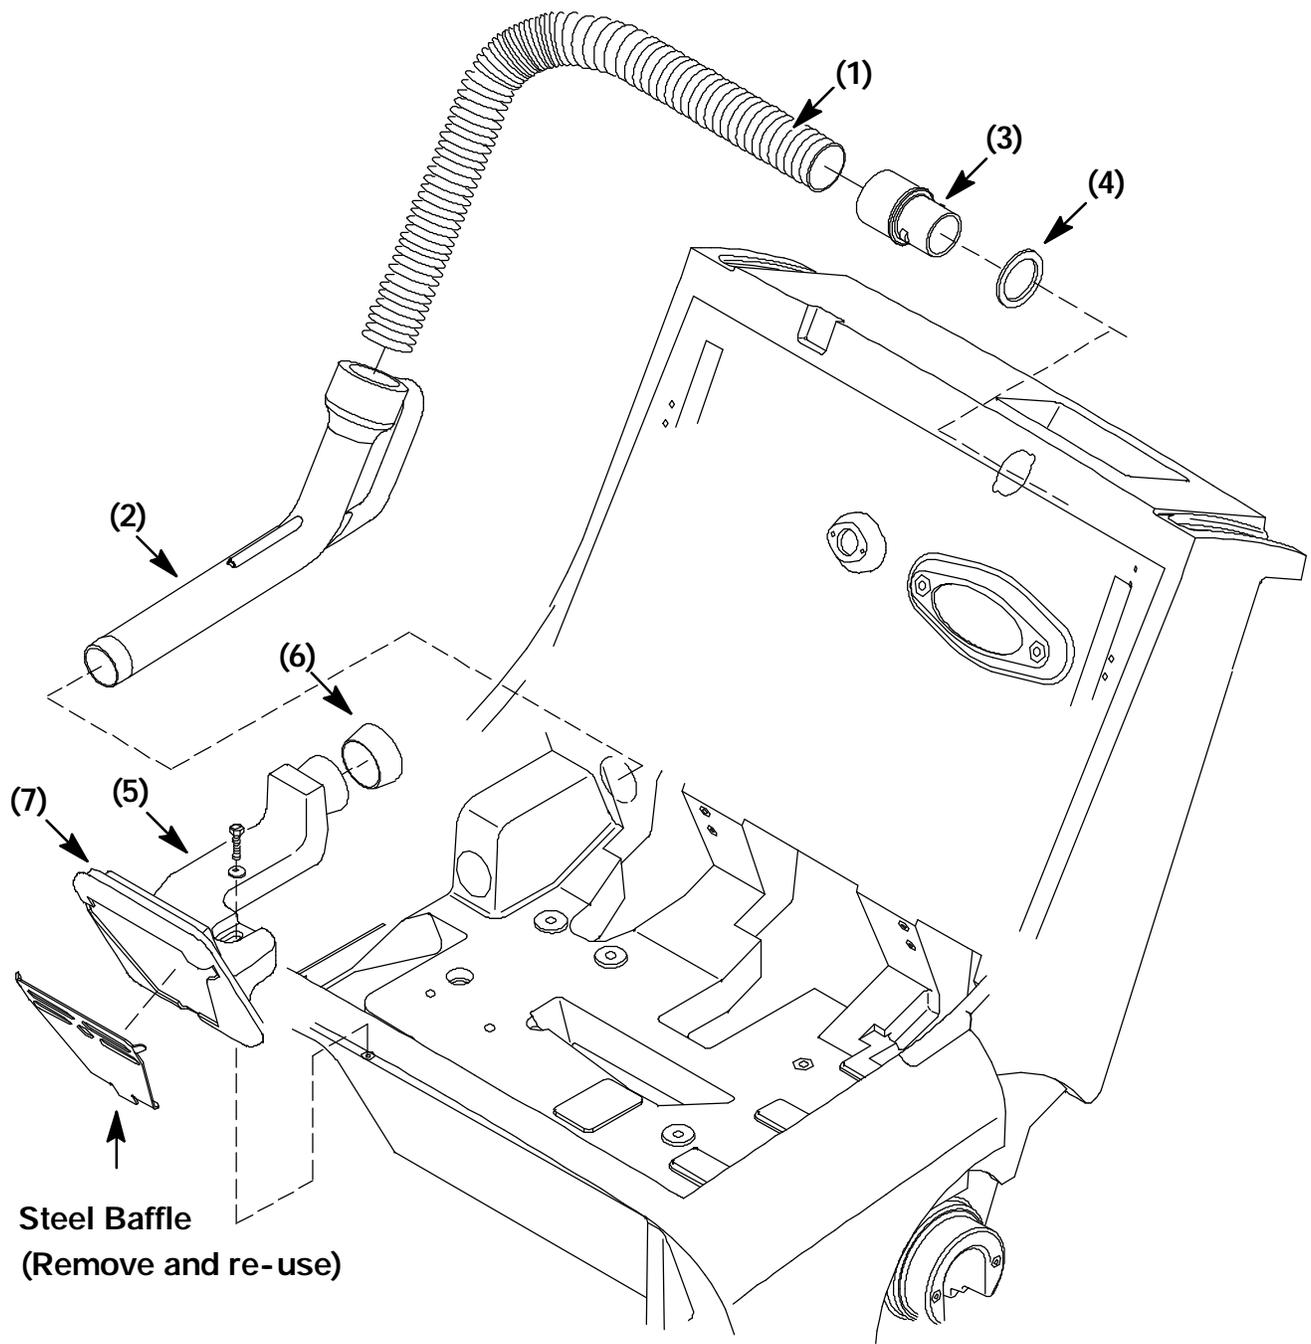

FIG. 2 Reduced Air Flow Assembly Installation
8. Install the new vacuum chamber seal (7) on the new vacuum chamber (5). (Refer to FIG. 2)
9. Install the new vacuum tube seal (6) on the end of the vacuum chamber (5). (Refer to FIG. 2)
10. Assemble the hose (1) to the wand (2) and cuff (3). Assemble the seal (4) to the cuff (3). (Refer to FIG. 2)
11. Install the cuff into the frame. (Refer to FIG. 2)
12. Position the new vacuum chamber (5) into the machine. (Refer to FIG. 2)
13. Install the wand (2) and hose assembly through the frame, into the vacuum seal (6). (Refer to FIG. 2)
14. Reinstall the hex screw and tighten the vacuum chamber (5). (Refer to FIG. 2)